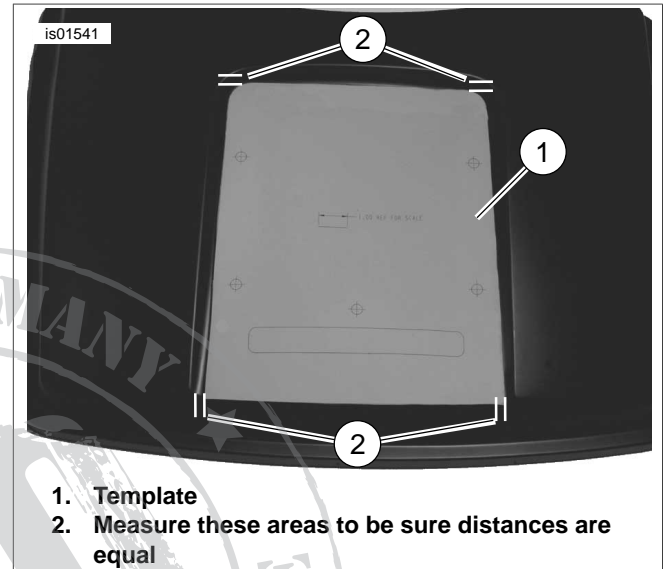

Figure 1. Center of Template
2. See Figure 1. Carefully place template in recessed area of Tour-Pak and align the template with the 3 surrounding ridges (forming the recess). Center template by measuring equal distances from side of template to left and right ridges and at top corners. Tape the template to the Tour-Pak in the centered location.